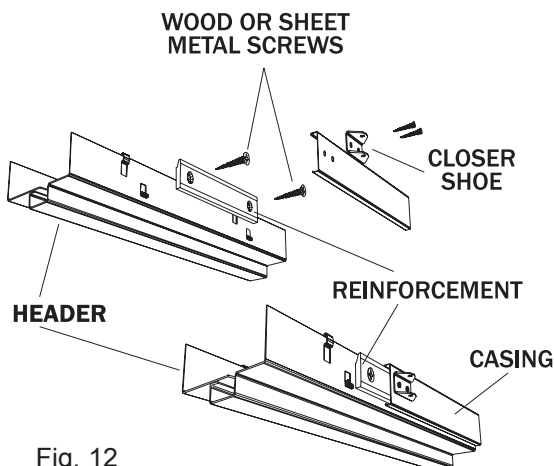

Fig. 12
- 1** Position closer reinforcement on header where the door closer shoe is to be mounted (Fig. 12).
- 3** Drill 3/16" (5) pilot holes in the header through the countersunk holes in the reinforcement and secure with 1-1/4" (32) Type "S" Bugle Head Self-Tapping Screws.
- 7 To apply WOOD casings**, locate "T" mark on face of frame. Place edge of casing parallel to "T". Locate casing nail approximately 1/2" (13cm) back from top of "T" and centered, then drive. This will allow nailing through the frame through the oval slot (Fig. 10, Fig. 12).